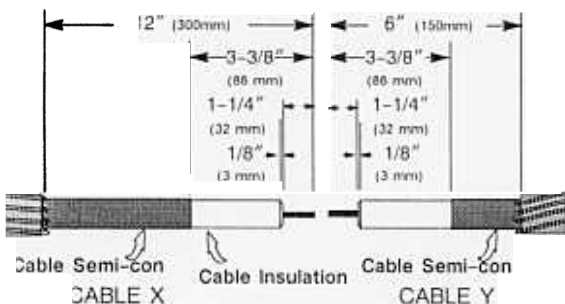

Figure 1
**A. Prepare Cables According to Standard Procedures Figure 1.**
3. Continue cable preparation according to Figure 1.